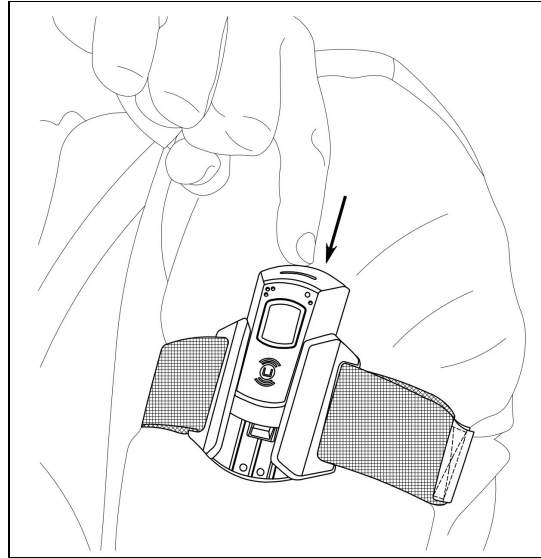

Figure 7
4. Insert the wearable device into the holster by sliding it downward into the holster. When inserted properly, it will click into place. (Figure 7)